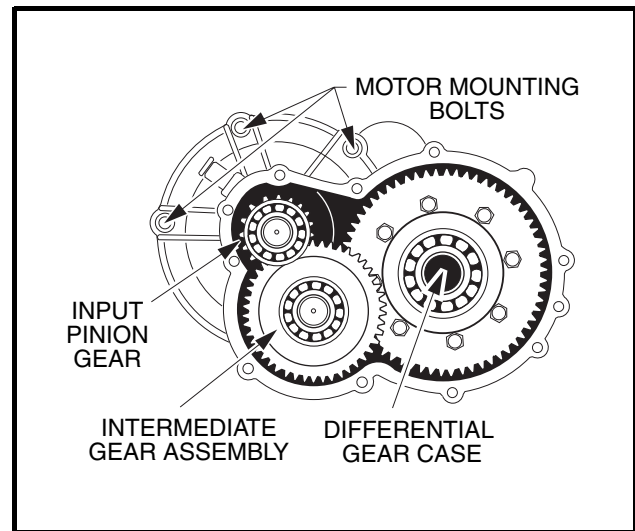
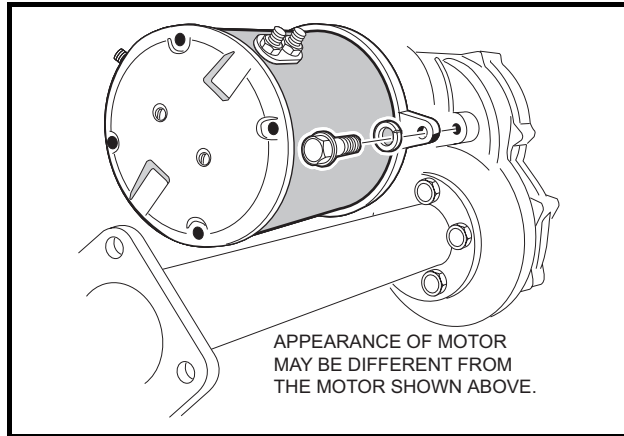

Figure 16-11 Motor Mounting Bolts
Figure 16-12 Motor Positioning Bolt
10. Remove the three motor mounting bolts (**Figure 16-11, Page 16-6**) and the motor positioning bolt (**Figure 16-12, Page 16-7**) mounting the motor to the transaxle. **See following CAUTION.**
4. Press new bearing (16) onto input pinion gear (17).
5. Apply grease to the lip of the new oil seal (10) and install the seal using a transaxle pinion seal tool (CCI P/N 1014161). The lip of the oil seal should face the inside of the transaxle housing. Make sure the seal is firmly seated.
6. Install the differential assembly, the intermediate gear assembly, and the input pinion gear simultaneously. Be sure all bearings are seated properly in the housing. Rotate the input shaft to check for smooth gear operation (Figure 16-11, Page 16-6).